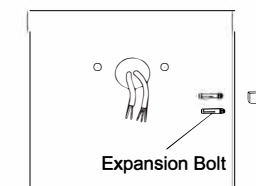

Figure 17
Step 2. Knock the expansion bolts into the wall (Figure 17)